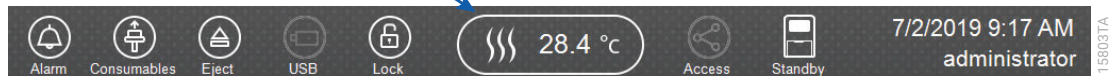

Figure 5. Preheating Oven.
2. Select the **Oven Temperature** icon in the Header on the 'Main Menu' screen as shown in Figure 5 to start preheating the oven temperature to 60°C. The temperature displayed will change as the temperature of the oven increases. When 60°C is reached a check mark will appear adjacent to the temperature.